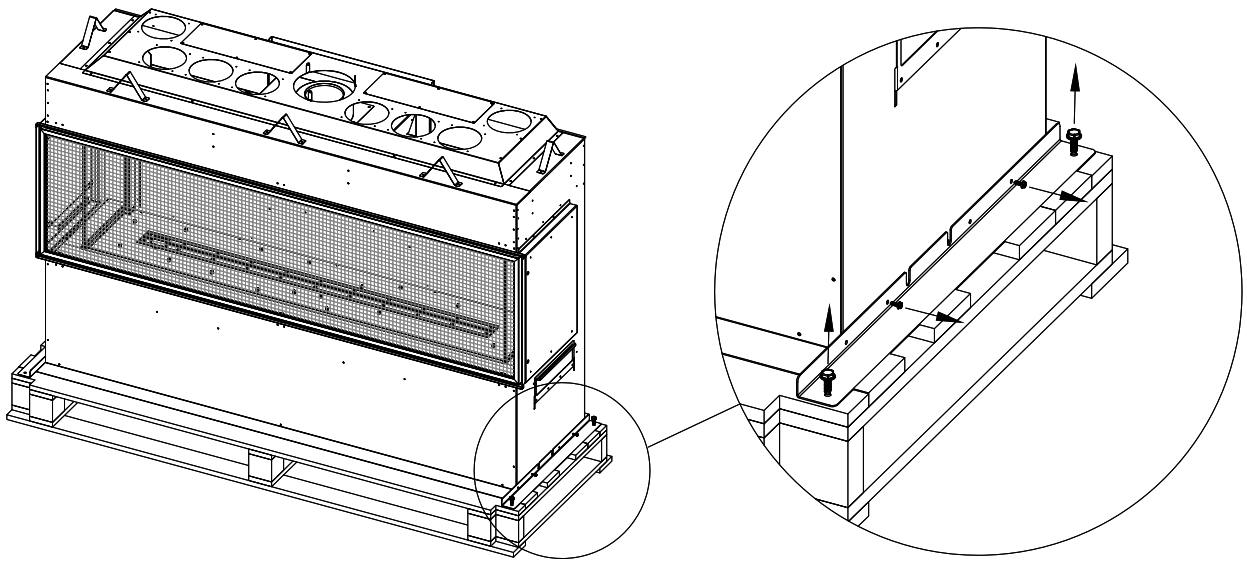

Figure 1.1 - Shipping Bracket Removal
1. Remove the shipping brackets from the pallet. The brackets are secured down to the pallet with (2) 3/8" screws. See Figure 1.1.